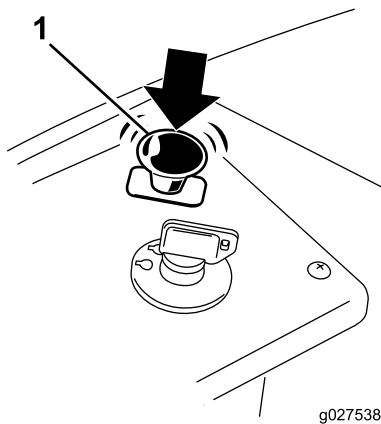

Figure 14
1. Disengage the blades by moving the blade control switch to Off (Figure 14).